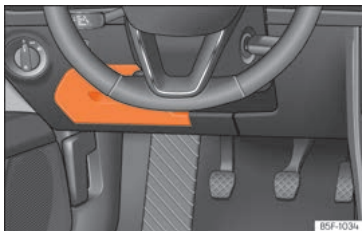

Fig. 104 On the dashboard on the driver side: lid of the fuse box.
- **Open:** fold the cover down » » » **Fig. 104.**